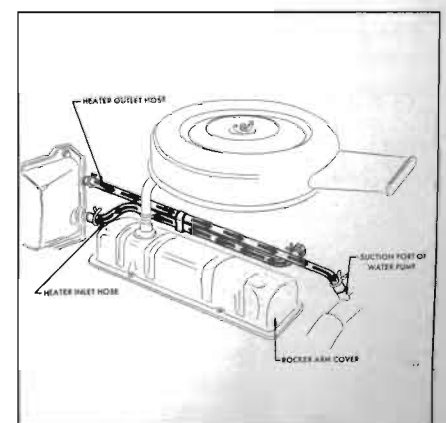

Figure 12-4—Heater Hose Routing
The heater core, located in the heater assembly, has water flowing through it at all times. The water flow begins at the right front portion of the intake manifold and flows to the lower inlet port of the heater core, thru the heater core, out the upper outlet port of the heater core and to the suction port of the water pump. See Figure 12-4.
5. Disconnect heater inlet and outlet hoses from heater core inlet and outlet ports (see Figure 12-4).